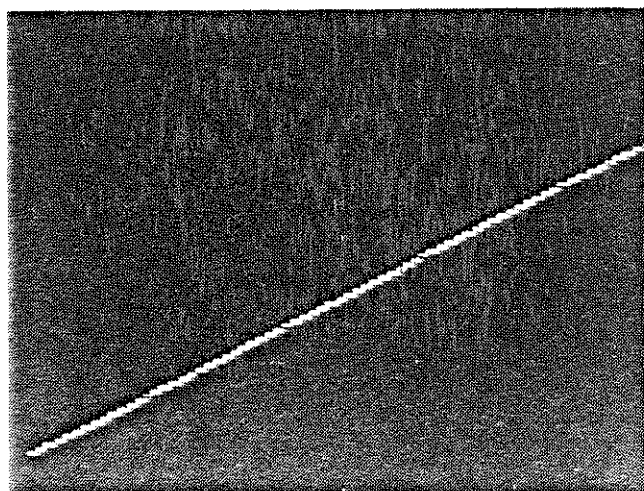

Fig. 4-8 Waveform to adjust 2nd A/D linearity
- c. Select TRIG DELAY and set it to obtain a waveform similar to Figure 4-8.